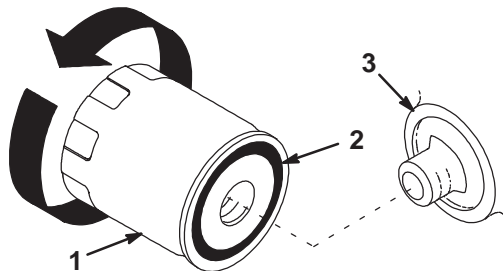

Figure 16
- Remove the old filter and wipe the filter adapter (Fig. 16) gasket surface.
- Apply a thin coat of new oil to the rubber gasket on the replacement filter (Fig. 16).
- Install the replacement oil filter to the filter adapter. Turn the oil filter clockwise until the rubber gasket contacts the filter adapter; then tighten the filter an additional 1/2 to 3/4 turn (Fig. 16).